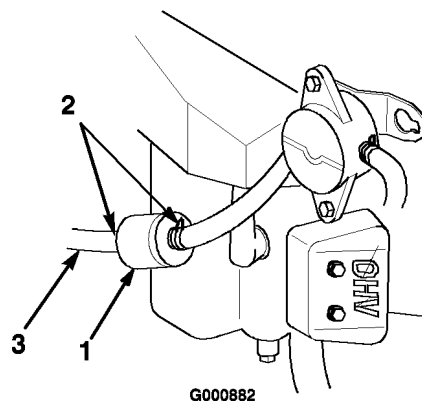

Figure 35
5. Loosen the hose clamp at the fuel filter and slide it up the fuel line away from the fuel filter (Figure 35).
6. Pull the fuel line off of the fuel filter (Figure 35).
4. Squeeze the ends of the hose clamps together and slide them away from the filter (Figure 35).
6. Install a new filter and move the hose clamps close to the filter (Figure 35).